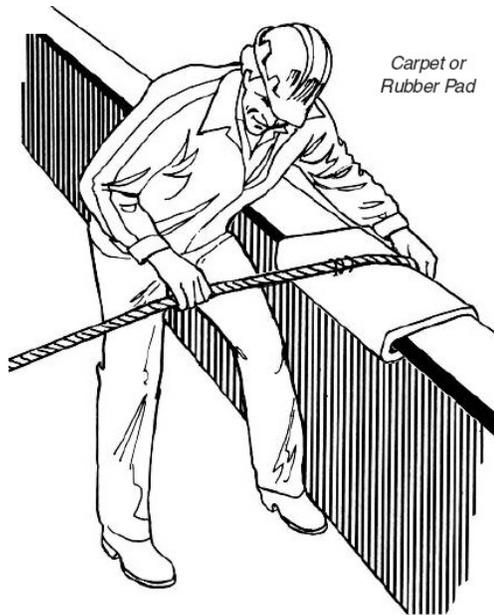

figure 1
- Protect lifelines from chaffing with carpet, hose, or other suitable material. Fasten it to the lifeline to prevent it from coming loose and falling (figure 1)